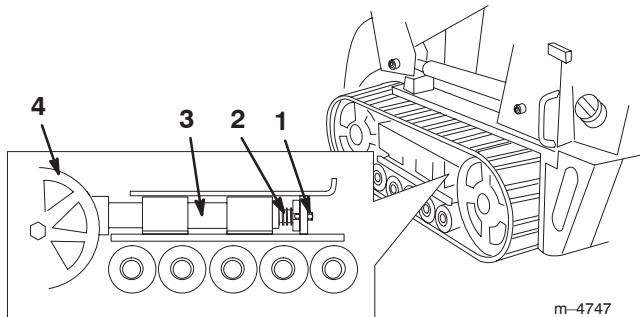

Figure 36
3. Remove the locking bolt and nut (Fig. 36).
5. Align the closest notch in the tension screw to the locking bolt hole and secure the screw with the locking bolt and nut (Fig. 36).
4. Using a 1/2 inch drive socket, release the drive tension by turning the tensioning screw clockwise (Fig. 36 and 37).
4. Using a 1/2 inch drive socket, release the drive tension by turning the tensioning screw clockwise (Fig. 36 and 38).